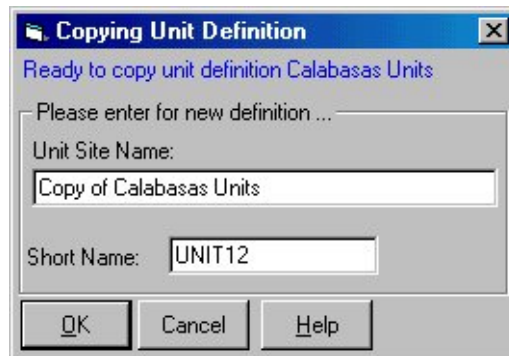

Figure 15: Copying Unit Definition Screen
- 3 At the **Copying Unit Definition** screen (see Figure 15), edit the **Unit Site Name**, if necessary.